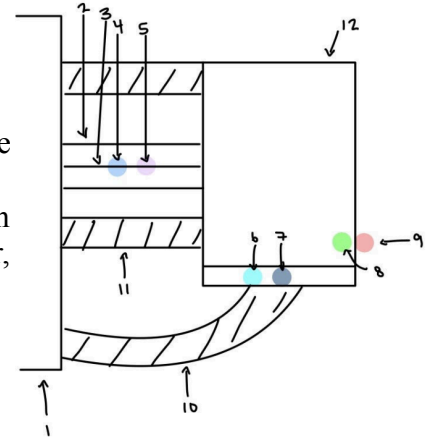

Figure 1
2.2 Figure 1
4.1 Figure 1
4.2 Figure 1
This Final Feature is located on the top left of the output which is shown in figure 1 and it is used to view the past graphs and specific gravity data taken by the product. All of the data stored will be sent to a cloud that can then reopen the data by clicking on the date of the data needed. After pressing the past data box, a drop down will appear with the most recent dates as well as a calendar that will show all dates that data has been stored on. After clicking on a set date, a page just like figure one will appear but with completed data and a completed graph.